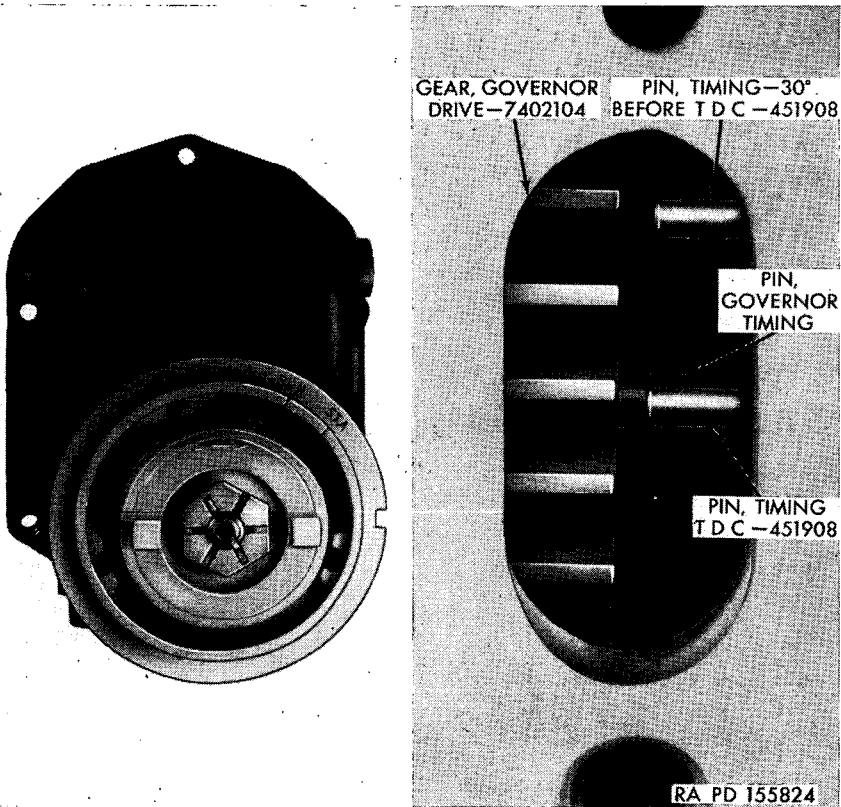

Figure 104. Governor timing.
- a. Use new gasket and mount governor in position at front side of crankcase with timing mark on governor drive gear in alignment with lower timing pin in crankcase (fig. 104). Timing pin on governor drive gear and timing pins in crankcase are easily observed through timing hole provided in side of crankcase (fig. 104).
a. Rotate engine until pin on governor drive gear is in line with lower pin on crankcase (fig. 104).
d. Time the magneto before installing on engine. Rotate coupling end of magneto clockwise past impulse; then rotate coupling counter-clockwise until arrow on coupling is at top-dead-center (TDC) (fig. 104).